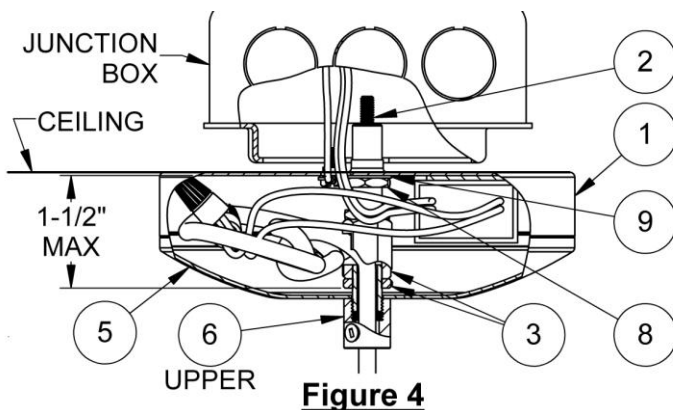

Figure 4
- A. Thread the jam nut (8) onto the end of the coupling sub-assembly (with the longer nipple). Thread into the center hole of the isolation canopy (1) with lock washer (9) and jam nut (8) so the distance from bottom of (3) is no more than 1-1/2" from inside surface of (1) per Figure 4.
- A. Feed the black and white supply wires from the driver through the off-center hole in the isolation canopy (1).
- B. *This unit will not operate properly unless connected to a "grounded" electrical circuit. Electrical shock, overheating, low or no light output, and shortened lamp life can result if proper grounding is not done.* Securely attach green (or green and yellow) wire from supply to green ground screw in the isolation canopy (1).
- D. Place isolation canopy with driver (1) over junction box with connected supply wires tucked inside of junction box. Secure to the junction box with two machine screws (2), making sure the isolation canopy is flush with the ceiling.
- E. Place decorative canopy (5), into the bottom of the hickey coupling (3) and over the lip of the isolation canopy (1), inserting any protruding wires so it will go on evenly all around.
- F. Thread upper strain relief (6) into the bottom of coupling (3). Hand tighten (6) securely and re-tighten the plastic set screw with a small slotted screwdriver (not included), Figure 4.